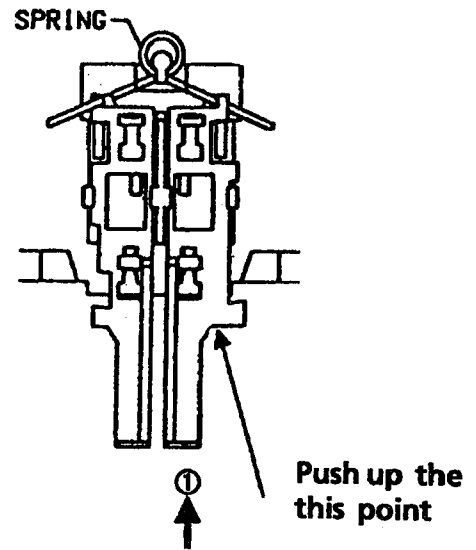

Fig 8
1. Remove the (1)(2)(3)and (4),(5),(8).
3. Push up the Elever as shown in the figure below(Fig. 8) and remove the door lock plate.